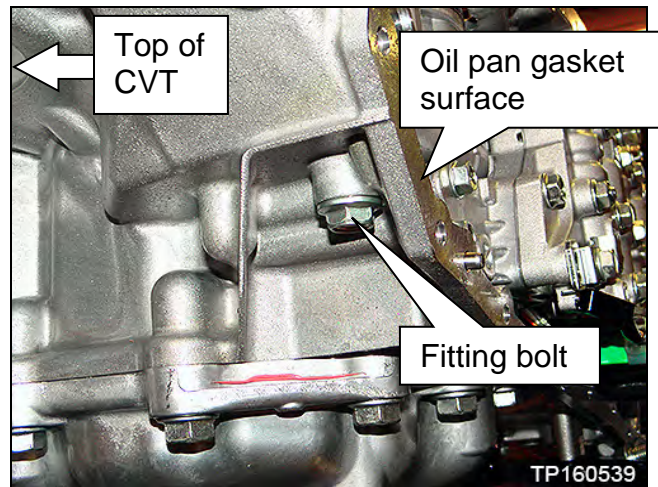

Figure 24B
- a. Remove the fitting bolt located above the corner of the oil pan gasket surface (Figure 24B).